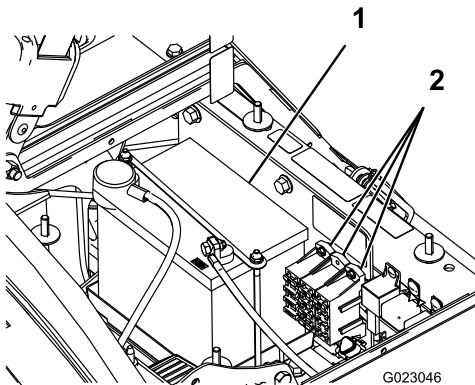

Figure 43
There are 2 fuse blocks and 1 empty slot in the electrical system. They are located beneath the seat (Figure 43).
2. The battery is located on the right side of the machine behind the pump (Figure 43).
5. Remove the battery retainer and fasteners (Figure 43).
2. Install the battery retainer and secure it with the fasteners you removed previously (Figure 43).
4. Install the battery cover and secure it with the 2 knobs (Figure 43).
1. Loosen the knobs on the sides of the battery box and remove the battery cover (Figure 43).